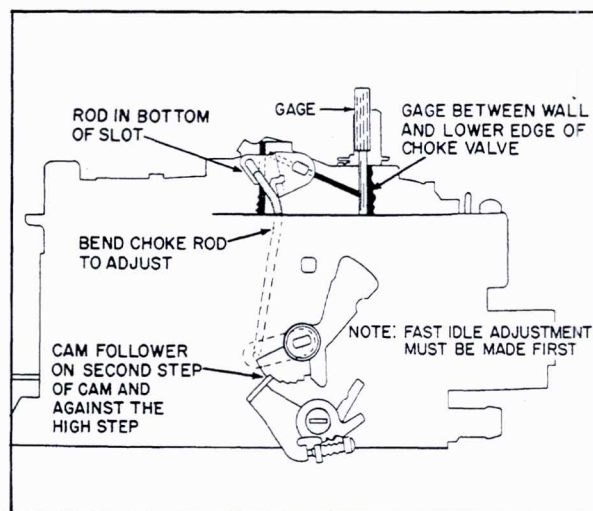

Fig. 6-79 Choke Rod Adjustment
82. Choke Rod Adjustment (Fig. 6-79)
4. Bend choke rod, Fig. 6-79 to adjust.